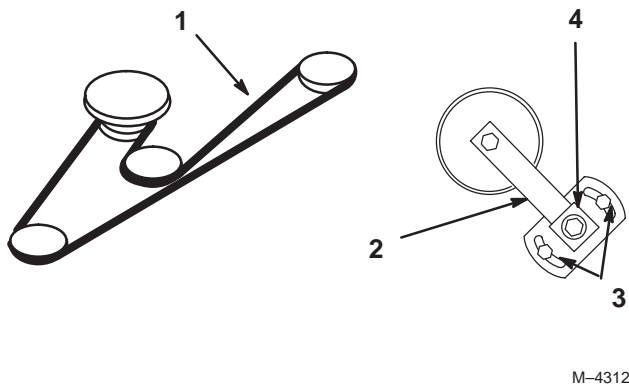

Figure 62
3. Loosen two nuts securing idler plate and move the idler arm to relieve belt tension on the idler pulley, then remove the worn deck belt (Fig. 62).
4. Install the new deck belt around the spindle pulleys, belt guide, the idler pulley, and in the lower groove of the center spindle pulley (Fig. 62).